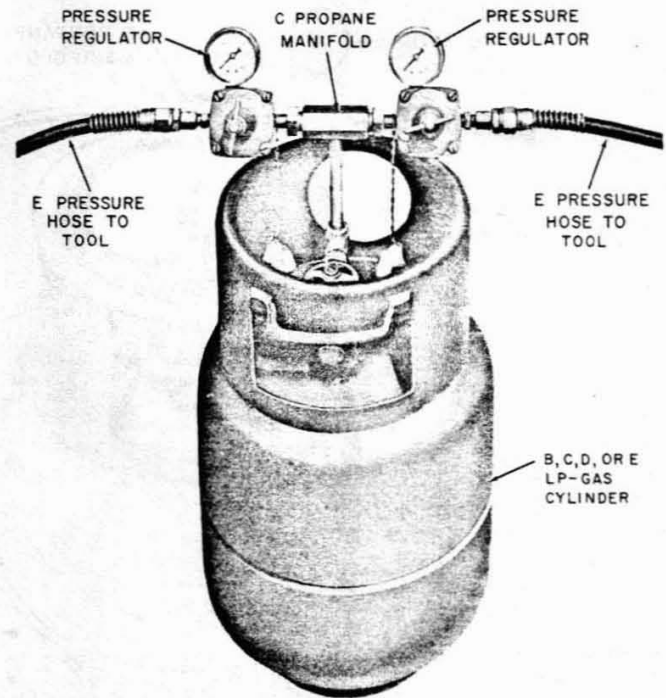

Fig. 9—Two Tools Being Supplied From One Cylinder
**6.07** If more than one tool is being supplied from a cylinder as shown in Fig. 9, and the cylinder loses its capacity to supply fuel to the tools as outlined in 6.06, use a separate cylinder to supply fuel to each tool.